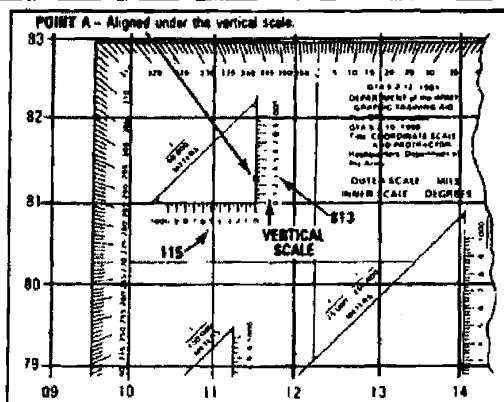

Figure C-16. Aligning the coordinate scale
f. Slide the scale to the right, keeping the bottom of the scale on the bottom grid line until point A is under the vertical (right-hand) scale (figures C-16 and C-17). To determine the six-digit coordinate, the 100-meter mark on the bottom scale, which is nearest the vertical grid line, is the third digit of the number 115. The 100-meter mark on the vertical scale, which is nearest point A, is the sixth digit of the number 813. Putting these together, you have 115813.